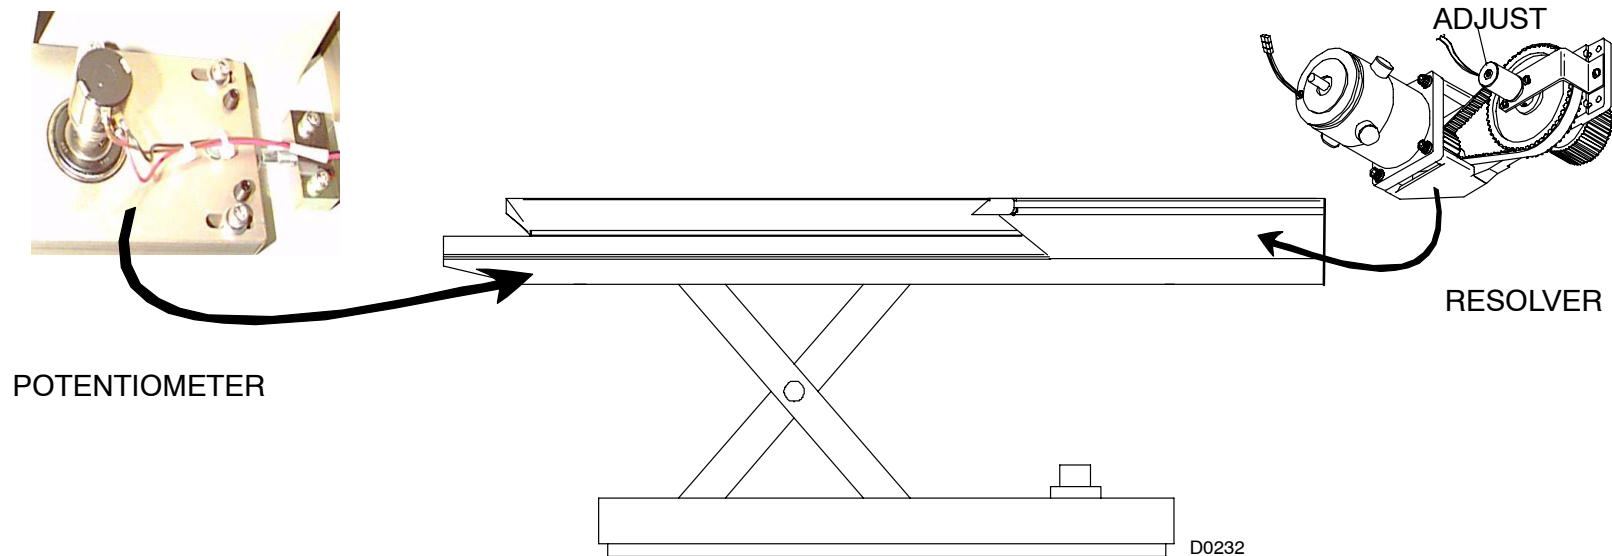

FIGURE 7 COUCH RESOLVER AND POTENTIOMETER LOCATION
During the Horizontal Couch Calibration, the resolver may need to be rotated (reference figure 7). Tighten resolver cleat screws sufficiently to prevent resolver housing rotation until calibration is completed.
11. Refer to Figure 7: